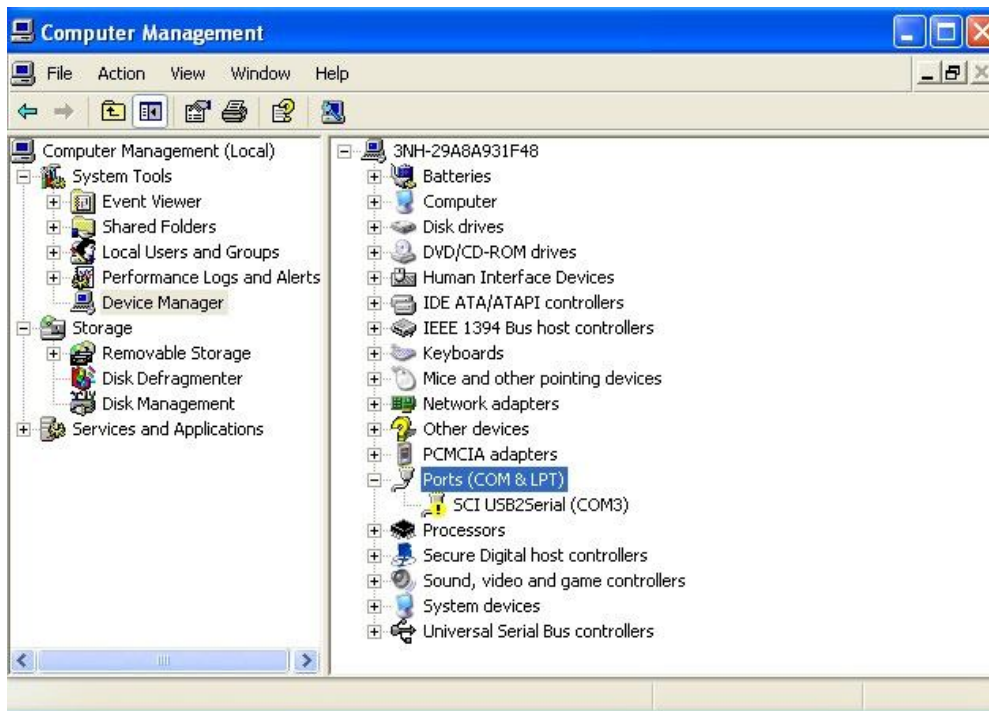

Figure 10
**In the use of CQCS3 software, when you open “Communication Parameters” window to select serial port, you can check the serial port in Figure 10. Then fill in this effective serial port to COM selection box in “Communication Parameters” window.**
In Figure 8, click “Manage”. Click to open “Device Manager”. If the computer displays an interface shown in Figure 10, it means USB driver installation failed. You need to reinstall USB driver.